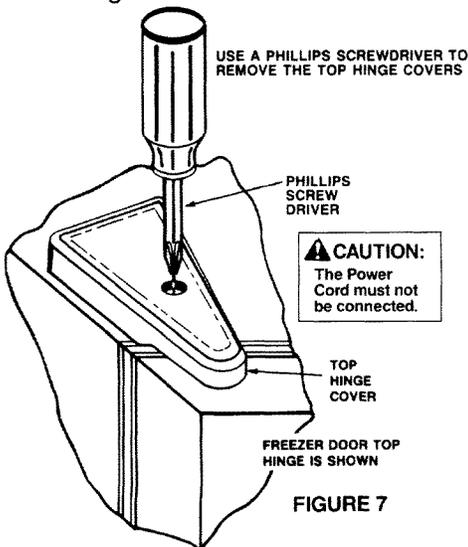

FIGURE 7
2. Remove the top hinge covers. See Figure 7.